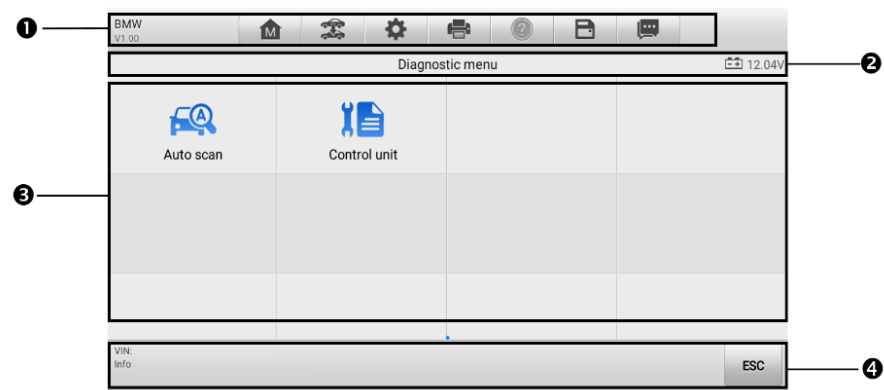

Figure 4-4 Diagnostic Menu Screen
- 3. Select **Auto Detect**. The tablet starts VIN scanning on the vehicle's ECU. Once the test vehicle is successfully identified, the system will guide you to the vehicle Diagnostics Menu screen. See Figure 4-4 Diagnostic Menu Screen.